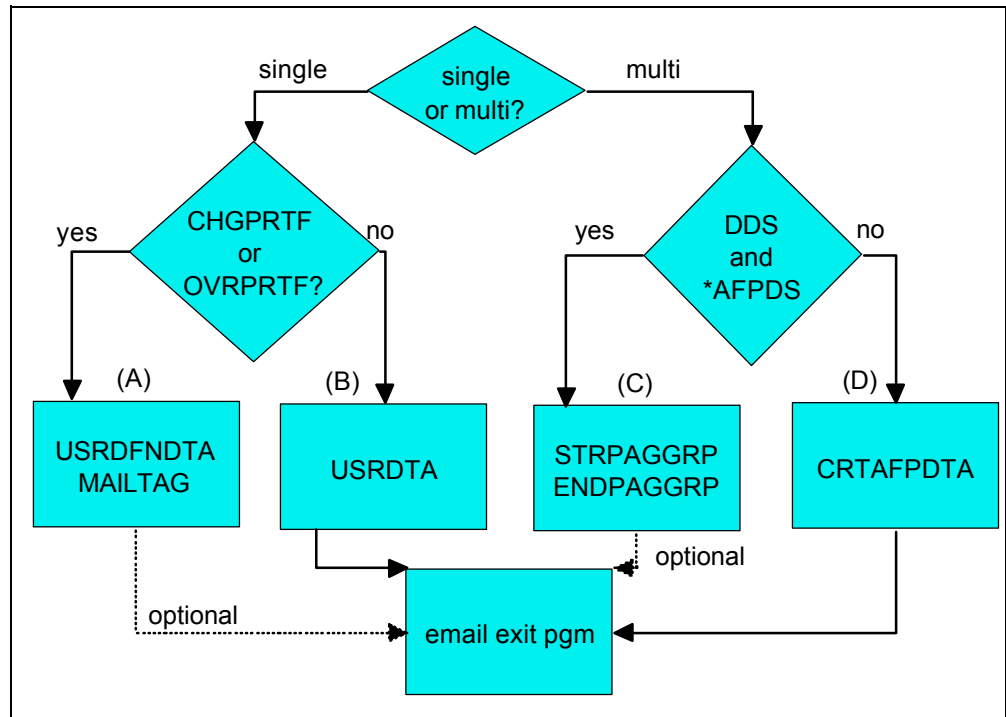

Figure 22. Options for specifying the e-mail address
Figure 22 illustrates the various methods of specifying the e-mail address for the PDF file(s). This section describes options (A) and (B) for sending single files. The choice between the two options depends on whether you can change or override the printer file.
This corresponds to branch (A) in Figure 22.
This corresponds to branch (B) in Figure 22.